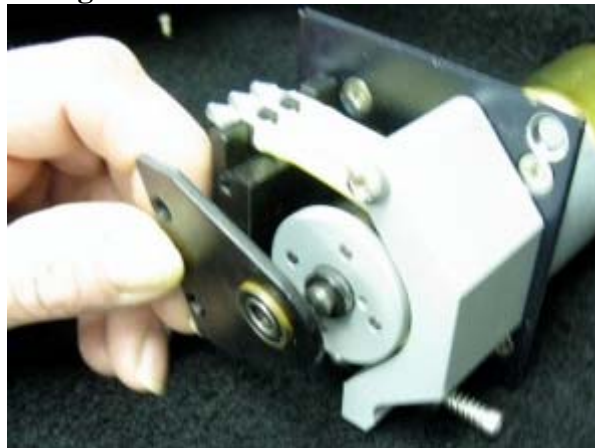

Fig. 9
- 11) Install the plastic washer and the rotor stabilizer bracket with (2) screws using a #1 Phillips screwdriver. **Figure 9**